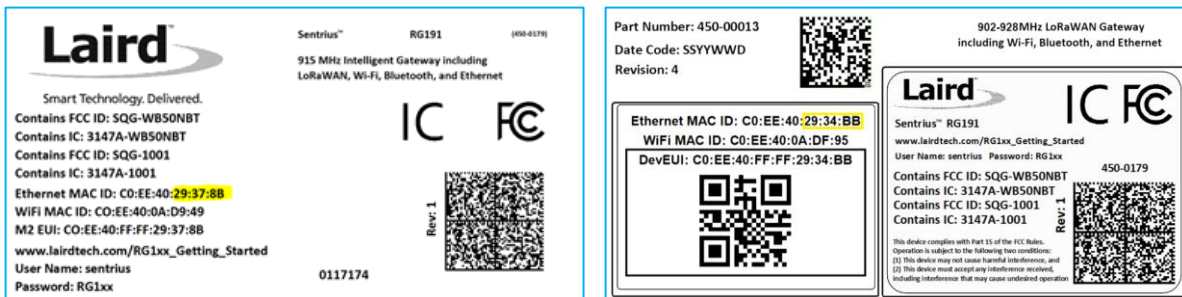

Figure 4: Bottom label (Standard GW – Left, AS923 & AU915 Region Supported/Latest Version – Right)– last three bytes of the Ethernet MAC address highlighted
3. Connect to the access point rg1xx**29378B**, where 29378B are the last six digits of the Ethernet MAC address found on the label on the bottom of the gateway (Figure 4).
1. Determine the last three bytes of your gateway's Ethernet MAC address. This can be found on the label on the bottom of the gateway; the last three bytes are highlighted (Figure 4).